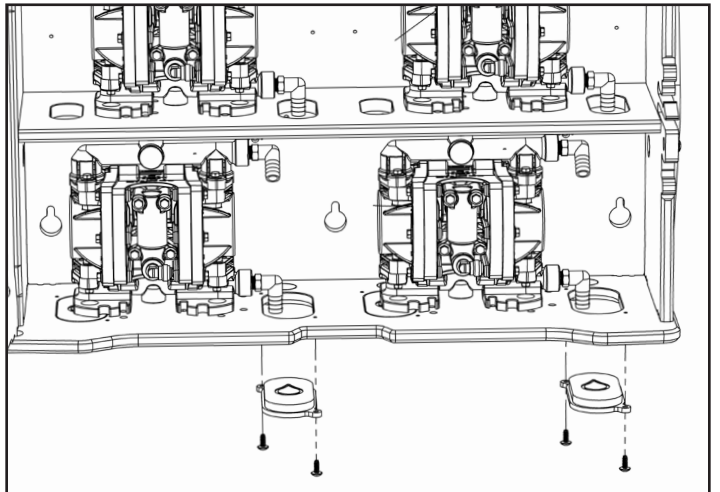

Fig. 7.2: Removing filler plates for ARO option
3. Remove the filler plates for any hose routing ports to be used [Figure 7.2]